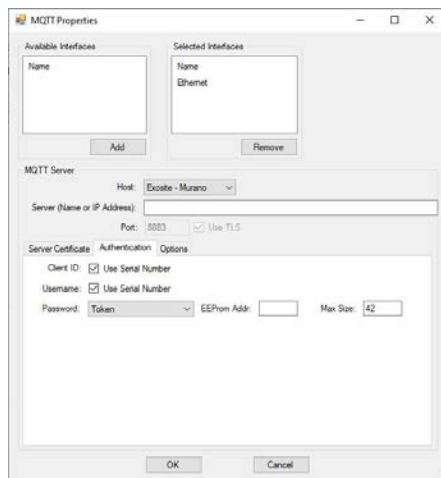

Figure 28-7B
- c. The Authentication tab requires additional configuration. Refer to Figure 28-7B.